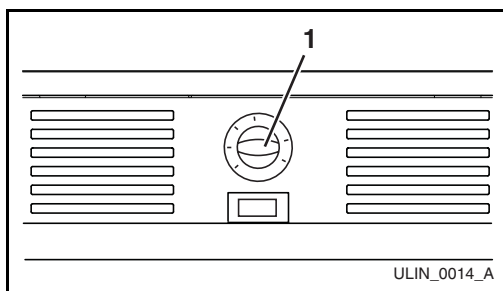

Figure 15
1. Remove the control knob (**Figure 15, 1**) by pulling it away from the cabinet.